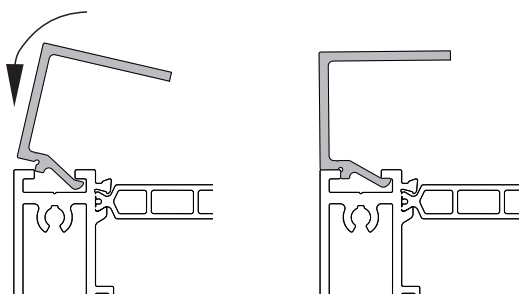
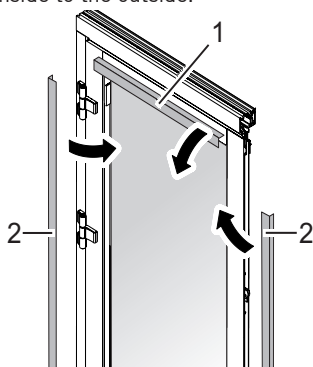

Fig. 34: Mounting the glass clamping profile
Fig. 36: Inserting the glass clamping profiles
3. Insert the glass clamping profile (Fig. 34) into the profile in an inclined way and press down at the leading edge.
5. Insert the glass clamping profile on the opposite front side (Fig. 36/1) into the profile in an inclined way and press down at the leading edge (Fig. 34).
7. Insert the glass clamping profiles and seal at the long sides (Fig. 36/2).